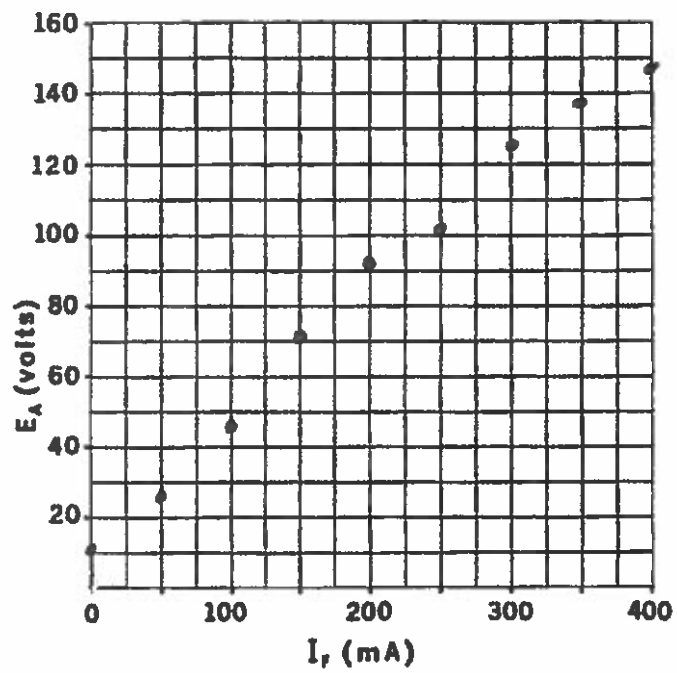

Figure 27-4.
3. Plot the E_A vs I_f characteristic curve for your DC shunt generator on the graph of Figure 27-4. Use the data from Table 27-1. Note that the curve "bends over" as the field current increases. Can you explain why this happens?